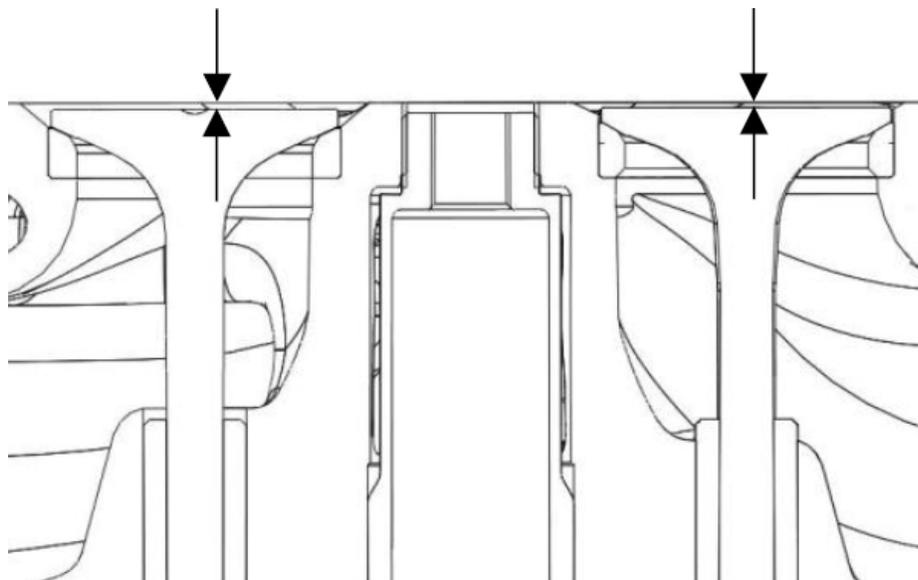

Figure 63. Valve Recession Check
- Insert the valves into their original locations and press them down until they are fully seated. Use a depth micrometer (Figure 63) to measure the difference between the cylinder head gasket surface and the combustion surface of each exhaust and intake valve. See Cylinder Head specification chart for the service limit.